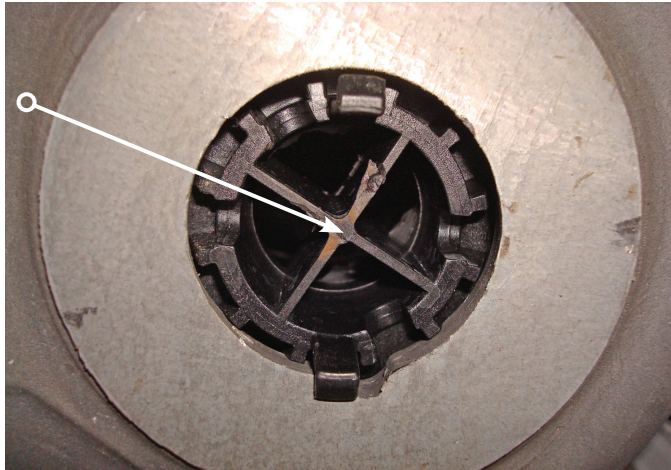

fig. 3
- Once the hole is created, remove the cross ribs from the lower spring retainer in order to make access to the barb on the cylinder (Fig. 3).